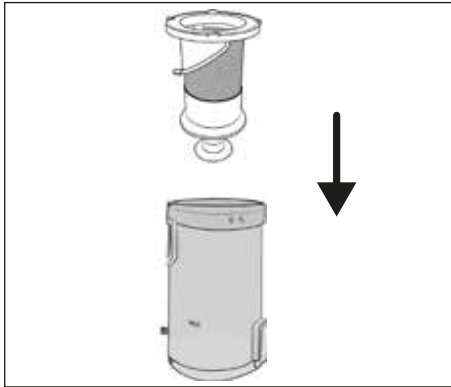

Fig. 21
- 6) Insert the stainless steel filter **6** into the dust container **7** and push it all the way down (see Fig. 21). Pay attention to the different sized locks on the stainless steel filter **6**. The stainless steel filter **6** can only be inserted into the dust container **7** in one position due to these locks.